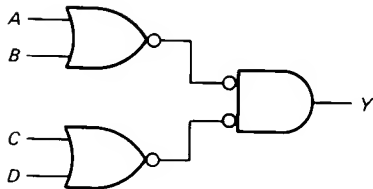

Fig. 3-29
- 3-12. What is the output in Fig. 3-29 if all inputs are low? If all inputs are high?
3-13. How many words are in the truth table of Fig. 3-29. What is the value of Y for each of the following?
3-14. Which $ABCD$ input words does the circuits of Fig. 3-29 recognize?